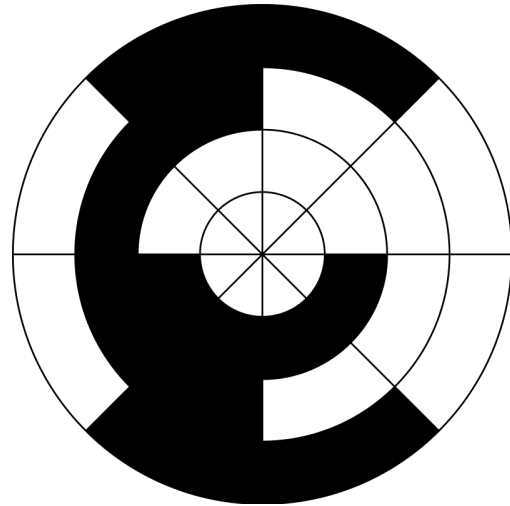
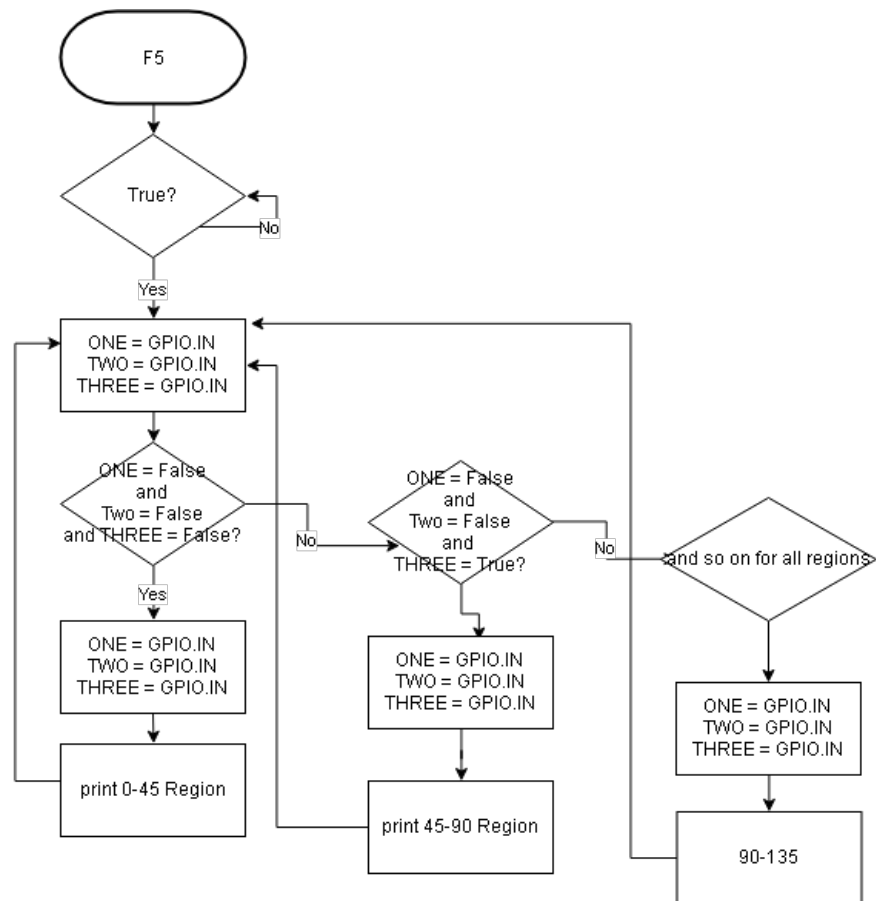

Figure 1: Here is a three bit encoder.
Figure 5: Flow for the three bit encoder
Optical encoders can be used to produce extremely fine resolutions for directional information. They work on a simple basis; typically using digital logic to determine whether or not a sector is occupied by a combination of digital signals. An example of this combination of signals is Gray code or reflected binary code (RBC.) This type of code allows for the assignment of unique binary combinations without repetition throughout a range of bits. For example, a three bit encoder can uniquely identify eight different sectors. Each identified by a range of angles. This is shown in figure 1. These types of encoders work on the premise of light absorption and reflection. An infrared (IR) sensor transistor and IR LED can be used in each bit to determine an on/off state for each bit and therefore, can determine a unique set of up to 8 sectors:
The next encoder used was a 3-bit encoder like the one in figure 1. The program was similar and worked based on the same principle. Each sector (every 45 degrees) was given a unique identifier based on Gray code and these let the user determine what section they were in. The flow of the program is given in figure 5 and the actual code is available in the appendix.